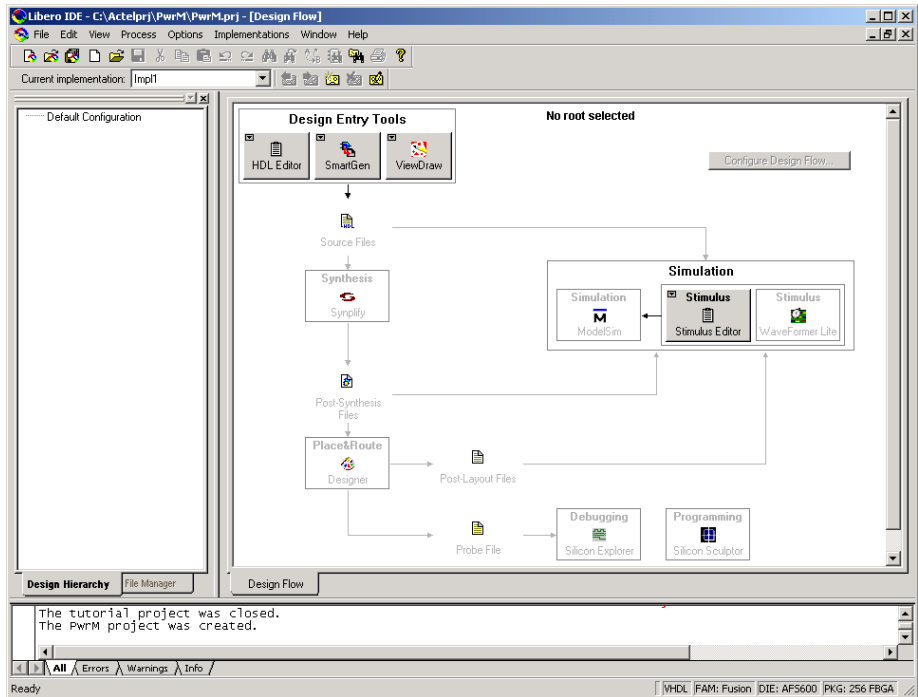

Figure 1-5. New Libero IDE Project Window
5. Click Finish. Libero IDE creates a new project, as shown in Figure 1-5.